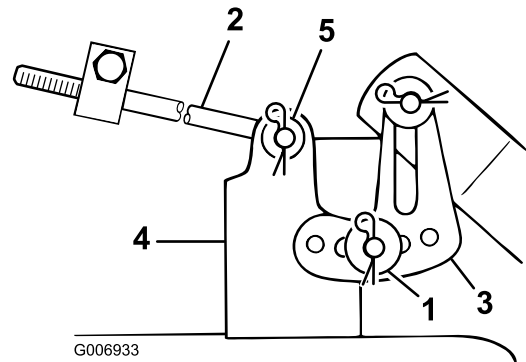

**Figure 55**
9. Remove the lift assist spring between the cutter deck right side lift bracket and the retaining bolt (Figure 55).